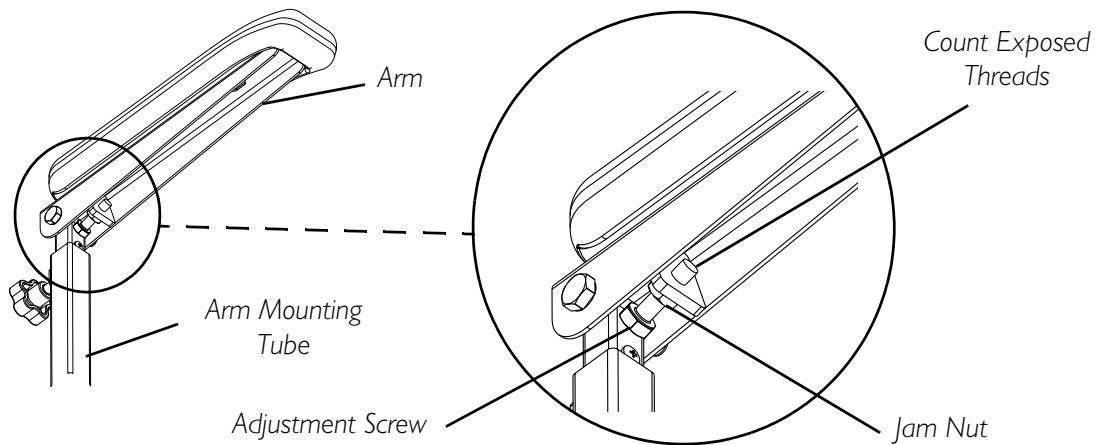

FIGURE 8.2 - ADJUSTING ARM ANGLE
NOTE: For this procedure, refer to FIGURE 8.2.
2. Loosen the jam nut (FIGURE 8.2).